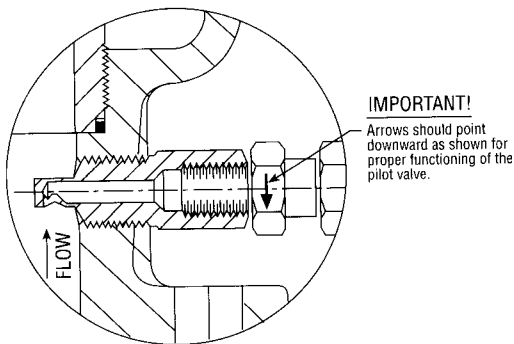

Fig. 5.4 Sensing Nipple Orientation
14. If sensing nipple is removed from the body, thread it to the body and make sure the hole orientation is correct and agrees with the arrows marked (Refer to Figure 5.4).
14. If sensing nipple is removed from the body, thread it to the body, making sure that hole orientation is correct and agrees with the arrow marked (Refer to Figure 5.4).